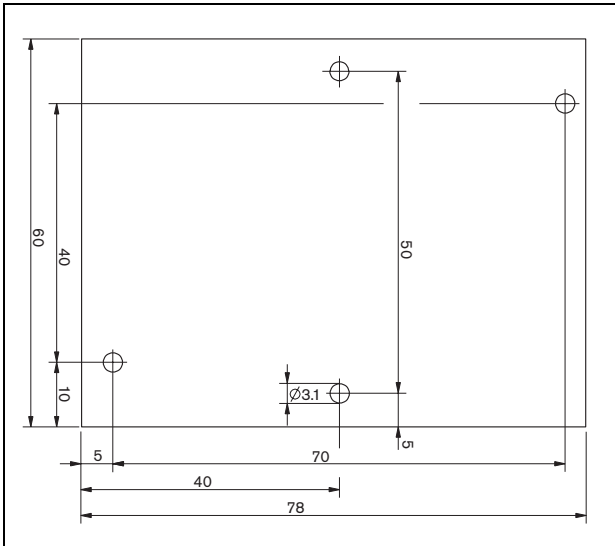

figure 12.5: Dimensions
To install the board in, for example, a box, use the universal brackets (LBB4446/00). Connect the board to a bracket using the middle holes (see figure 12.5).
- 2 Use the corner holes in the board (see figure 12.5) to install it in a loudspeaker. The coils on the PCB must be kept at a distance of 30 mm or more from the loudspeaker magnet and a distance of 50 mm or more from the loudspeaker transformer, otherwise the magnetic fields can disturb the correct operation of the board.